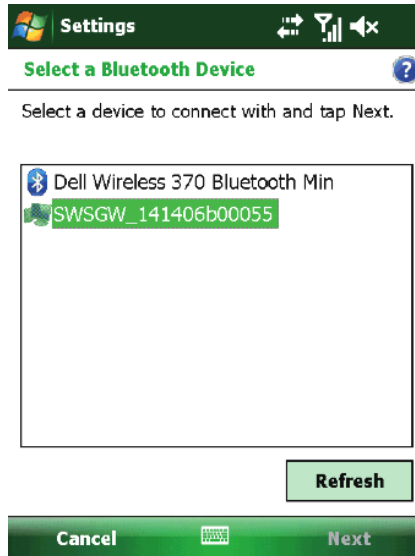

Figure 1: Search for Diver-Gate(M)
- After retrieving a list of nearby Bluetooth devices, select the Diver-Gate(M) (name is SWSGW_1414xxxxxxx) (see example figure 1) and press Next.